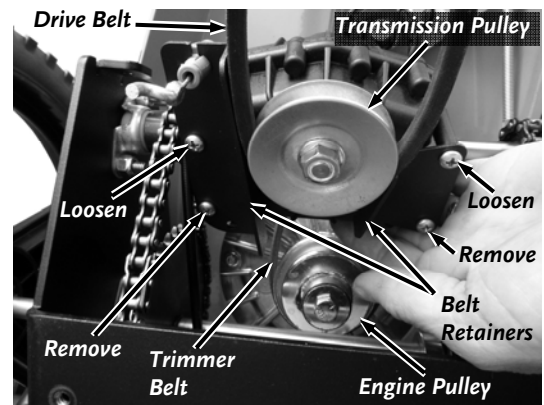

Figure 36
10. Continue to rotate the Transmission to gain access to the Belt retainers and Screws on the bottom of the Transmission (**Figure 36**).